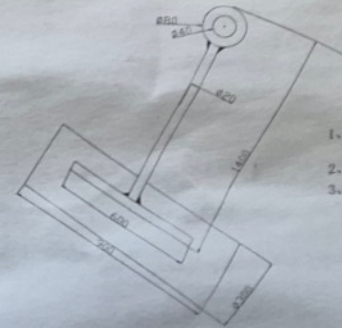

Figure2
4. The making and size of the upper tower is shown in figure 2. Its requirement: solid welding; no leak at the weld zone; the earth lug must be welded 20cm away from the ground(cheaply visible). It will be connected to the lightning grounding device.
figure 2 wind turbine flange connection in the top of tower